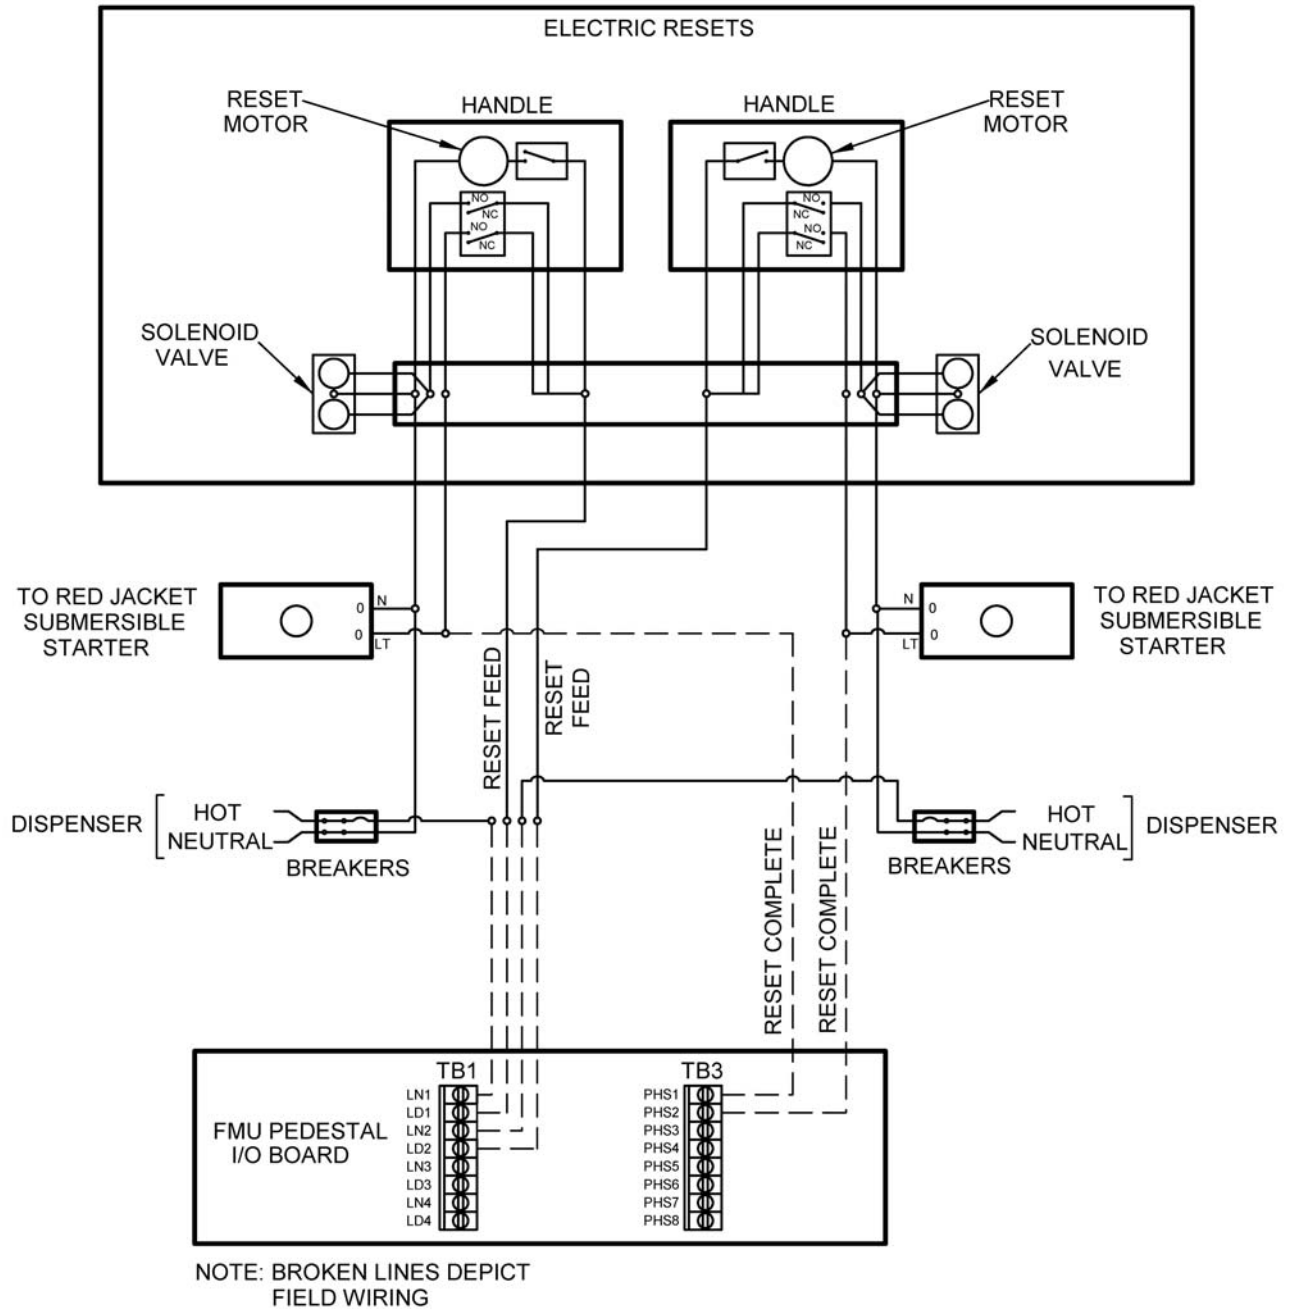

Figure 4-8. Wiring Diagram - Controlling Reset
- a. **Controlling Reset.** See Figure 4-8. This control method interrupts power from the circuit breaker to each dispenser reset mechanism. Quick and easy; there is no power present if a solenoid valve sticks open or a reset mechanism or contact starter fails. Figure 4-8 illustrates controlling reset in a dispenser using two circuit breakers, one per hose. Some arrangements may only be using one breaker. The power from one breaker may be brought into LN1, then jumped to LN2. The diagram also illustrates wiring pump handle detection into the FMU. Pump handle detection is only possible through an **END ONLY** pump handle configuration, and only with FuelMaster® Plus FMUs. If pump handle detection is not needed, or not possible, omit those wires connected to the PHS positions on TB3. Control will still be attained, but pump handle detection will not be present.